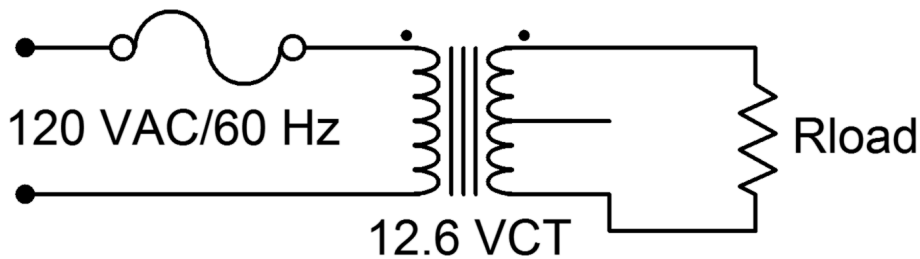

Figure 3
5. This section uses the 120 VAC line. Treat it with the caution it deserves. Connect the circuit of Figure 3 leaving  $R_{load}$  unconnected. Measure the secondary voltage with the DMM (AC Volts). Record the value in Table 3 under “Unloaded”.